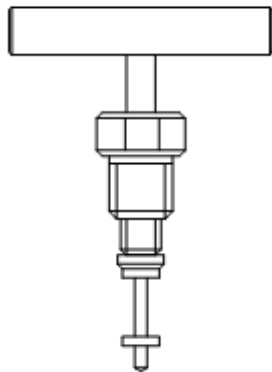
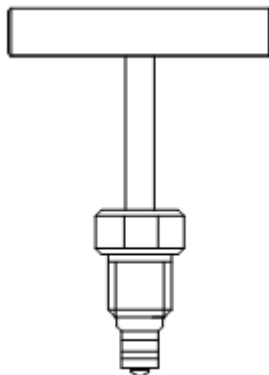

Figure 20
Figure 22
5. Rotate the handle counterclockwise until the valve is completely open (see Figure 20).
**NOTE:** *There are two types of valve assembly designs – one with the two followers and the packing ring (as illustrated in the accompanying tag)(Figures 22 & 23); and another with just one follower (Figures 20 & 21). The valve assembly with just one follower has a narrower stem, which can be more easily broken during disassembly. Therefore, it is important that you open the valve completely before unscrewing the large nut, and pulling the handle out straight after unscrewing the large nut. **THE FLOW VALVE WARRANTY IS VOIDED IF THE STEM IS BROKEN DURING DISASSEMBLY.***